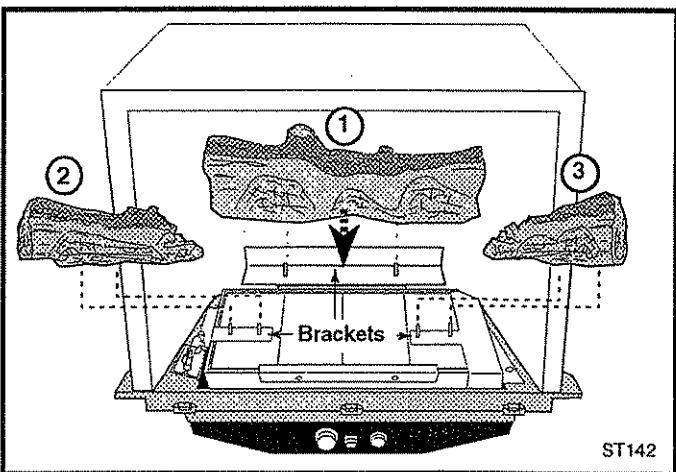

Fig. 14 Install the Rear Log and Right and Left Logs
4. Install the Rear Log (1) by engaging it with the pins on the steel shelf at the back of the firebox. (Fig. 14)
5. Install the Left (2) and Right (3) Middle Logs by engaging the burner bracket pins with the holes in the bottom of each log. (Fig. 14)